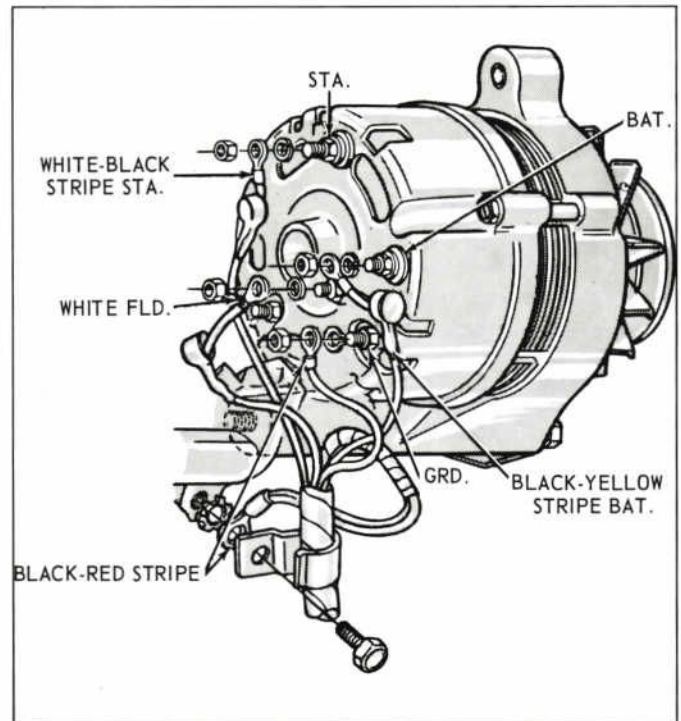

FIGURE 43. TERMINAL CONNECTIONS (1964-66 ALTERNATOR)
1. Attach the alternator wiring harness. (See Figure 43.) Position the alternator to the engine, and install the alternator mounting bolt finger tight.